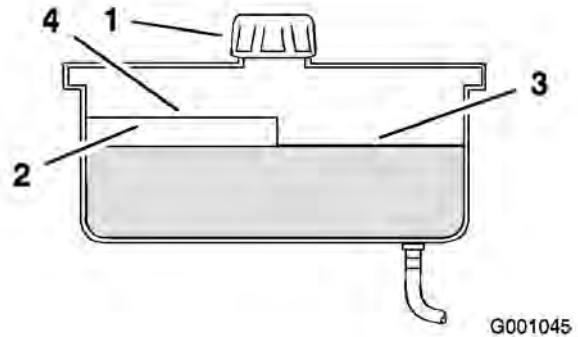

Figure 63
2. Clean the area around filler neck of hydraulic tank (Figure 63).
3. Remove the cap from the filler neck. Look inside to check if there is fluid in the reservoir (Figure 63).
Note: The fluid level should be to the top of the hot level of the baffle, when the fluid is hot (Figure 63).